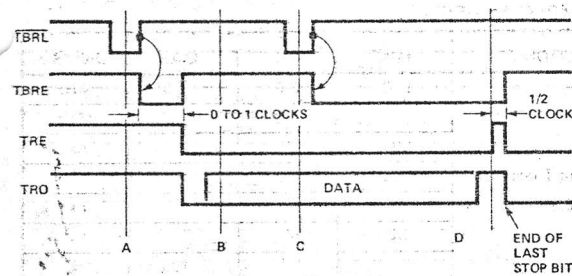

FIGURE 8. Transmitter Timing (Not to Scale)
Transmitter timing is shown in Figure 8. (A) Data is loaded into the transmitter buffer register from the inputs TBR1 through TBR8 by a logic low on the TBRLoad input. Valid data must be present at least  $t_{DS}$  prior to and  $t_{OH}$  following the rising edge of TBRLoad. If words less than 8 bits are used, only the least significant bits are used. The character is right justified into the least significant bit, TBR1. (B) The rising edge of TBRLoad clears TBREmpty. 0 to 1 clock cycles later data is transferred to the transmitter register and TREmpty is cleared and transmission starts. TBREmpty is reset to a logic high. Output data is clocked by TRClock. The clock rate is 16 times the data rate. (C) A second pulse on TBRLoad loads data into the transmitter buffer register. Data transfer to the transmitter register is delayed until transmission of the current character is complete. (D) Data is automatically transferred to the transmitter register and transmission of that character begins.